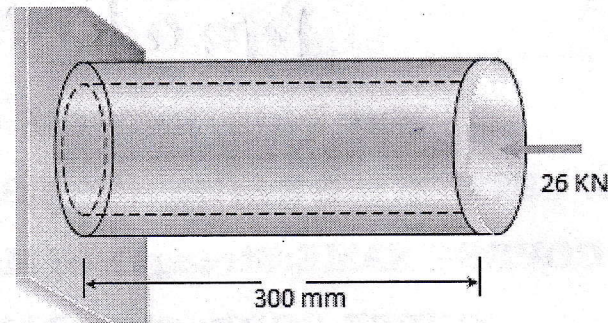

fig.3
- Q2 a) A short hollow circular tube of aluminium supports a compressive load of 26 kN as shown in fig.3. The inner and outer diameters of the tube are 50 mm and 60 mm respectively and its length 300 mm. The shortening of the tube due to load is measured as 9 mm. Determine the compressive stress and strain in the tube. [6]